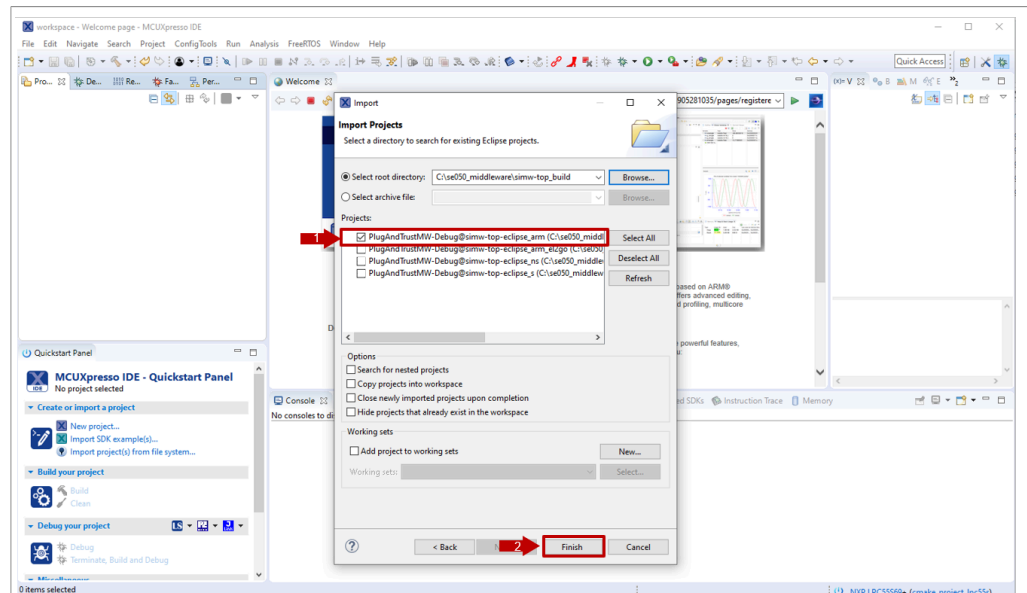

Figure 30. Import EdgeLock SE05x Plug & Trust middleware
4. After selecting `C:\se05x_middleware\simw-top_build` folder, a project called *PlugAndTrustMW-Debug@simw-top-eclipse_arm* should be visible in the "projects" area. Select it and then click on the *Finish* button to import this project into your workspace as shown in Figure 30: